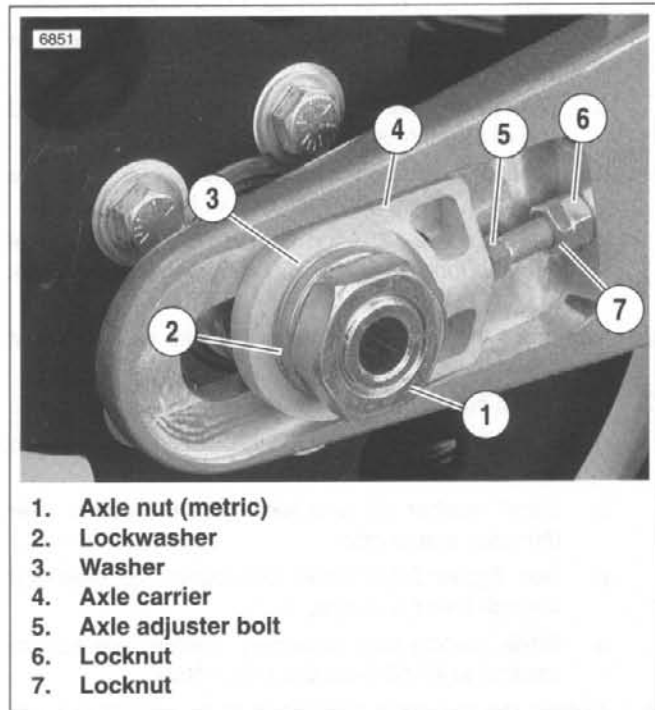
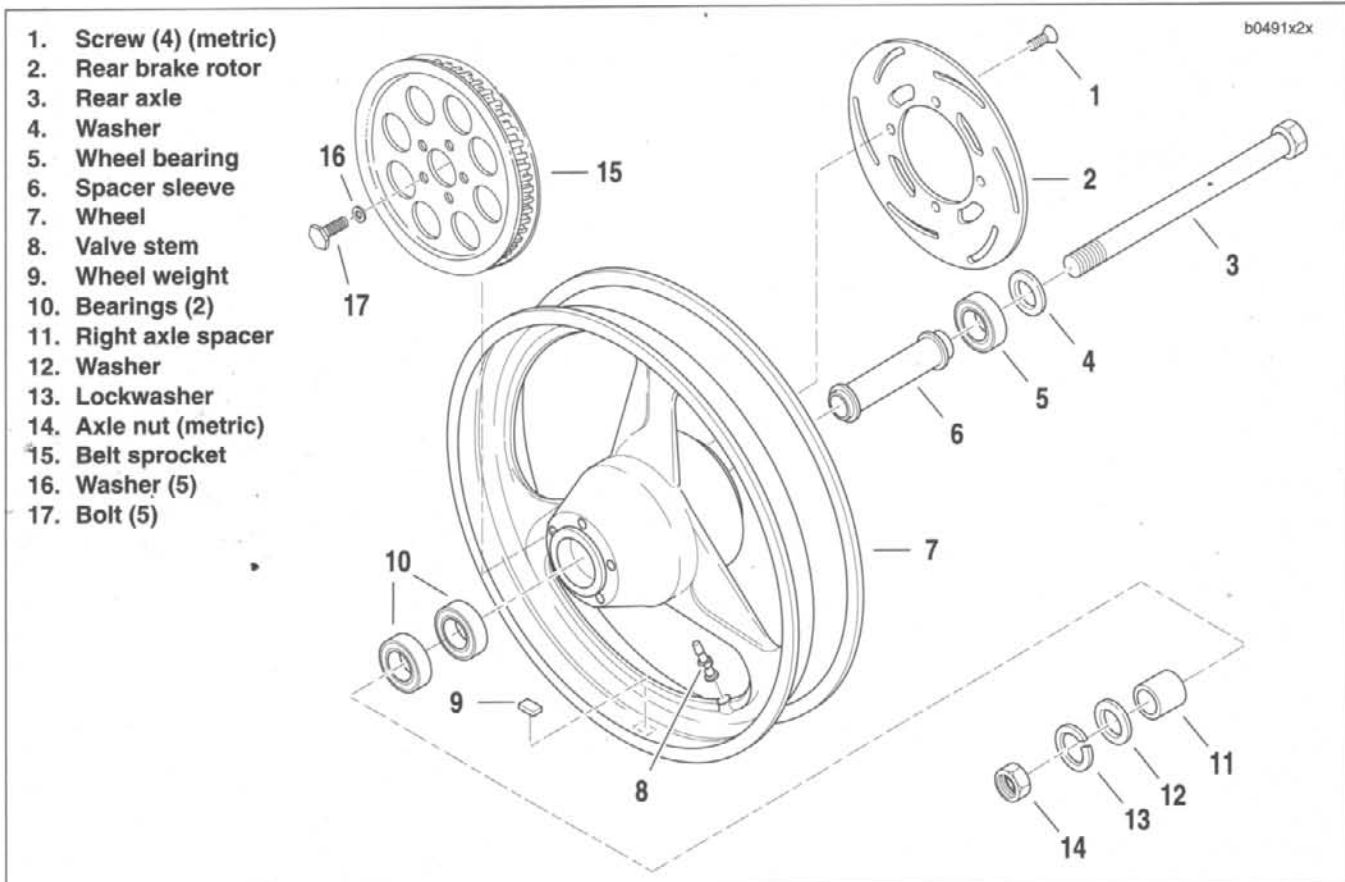

Figure 2-13. Rear Wheel Mounting, Right Side
Figure 2-14. Rear Wheel
3. See Figure 2-13. Loosen rear axle nut (1) (metric).
4. Loosen rear axle adjuster locknuts (7) and adjusters (5) on both sides. Push wheel as far forward as possible.
6. Remove rear axle nut (1) (metric), lockwasher (2), washer (3) and axle carrier (4).
7. See Figure 2-14. Pull axle (3) and washer (4) out from left side and remove wheel. Support caliper mount from frame.
2. See Figure 2-14. Remove two bearings (10) from sprocket side of wheel.
3. Remove four screws (1) (metric) to detach rear brake rotor (2) from wheel hub. On vehicles with P/M wheels, remove nut from each screw.
4. Remove five bolts (17) and washers (16) to detach belt sprocket (15) from wheel hub.
1. See Figure 2-14. Install rear brake rotor (2) on side of wheel hub with room for a single wheel bearing. Place rotor surface listing minimum thickness specification away from wheel hub.
- b. Apply LOCTITE THREADLOCKER 272 (red) to each of the four screws (1) (metric).